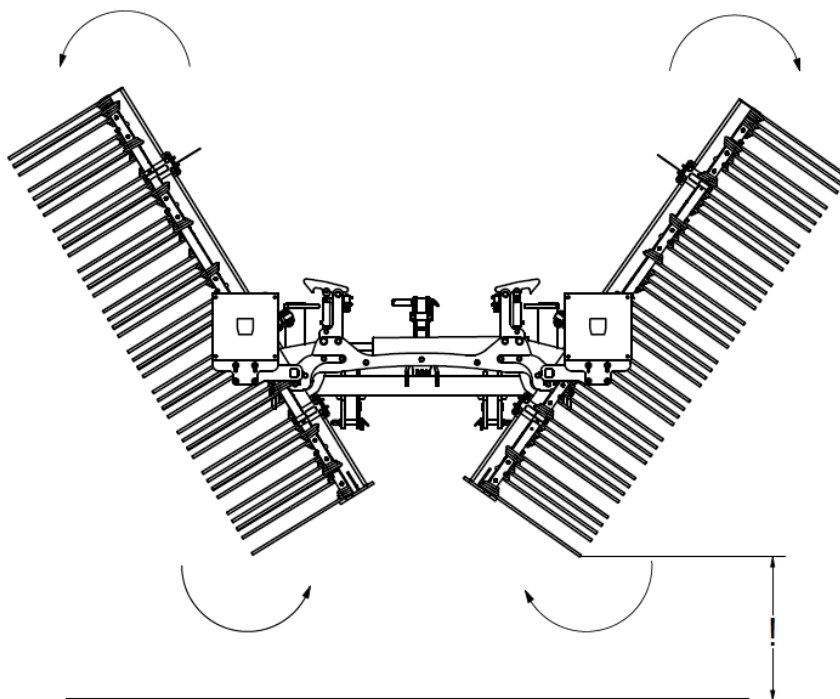

Fig. 12 Implement opening sequence: open the implement paying particular attention to the height of the arm ends from the ground.
4. When opening the implement's side extension arms, make sure that the ends of the arms are at the correct height to prevent them from catching on the ground (Fig. 12).